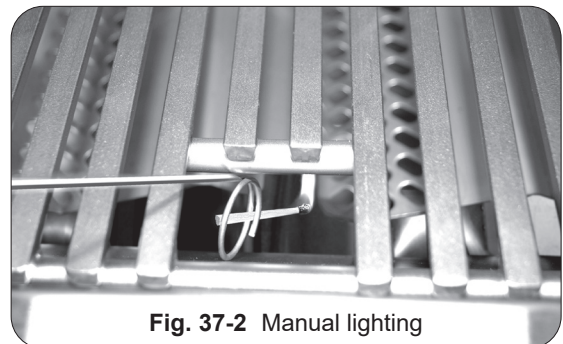

Fig. 37-2 Manual lighting
**CAUTION:** Always wait five (5) minutes for gas to clear after any unsuccessful lighting attempt.
2. Insert either a burning long-barrel butane lighter or a burning long-stem match through the cooking grid opening to the top of the burner (see Fig. 37-2).
This unit includes a wire extension match holder (attached to the front of grill frame underneath grill top panel) to assist with manual lighting (see Fig. 37-2 and 3).